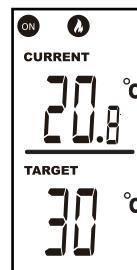

Fig.1
6. AUTO OPERATION IN HEAT MODE(④)
Press ⑤ or ⑥ button to set the target temperature. When the target temperature is higher than the current temperature (Fig. 1):
3. The red LED indicator ⑦ is on.